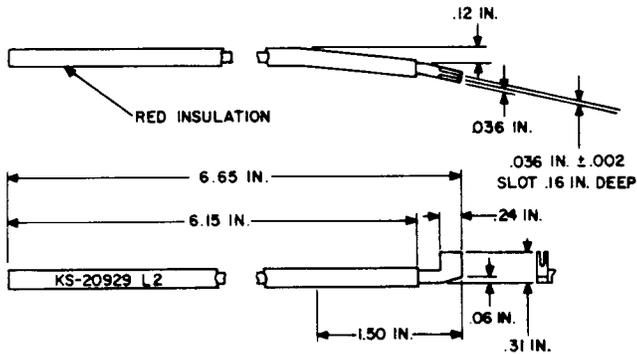

Fig. 14—KS-20929, L2, Adjuster Tool
2.16 KS-20929, L2: The KS-20929, L2, adjuster tool (Fig. 14) is used for adjusting heavy springs and the armature backstop on the 221 FAE relays.